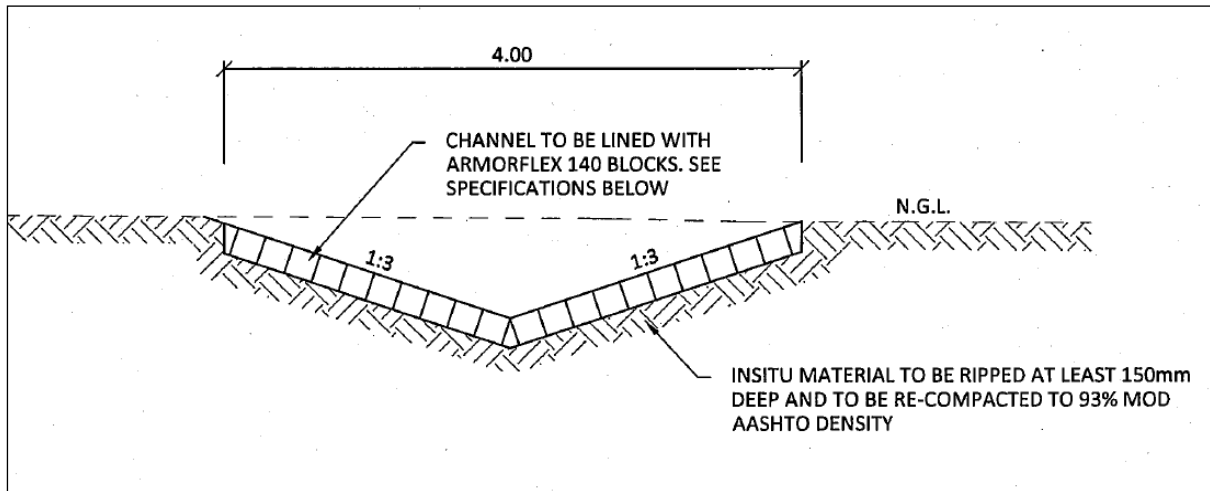

Figure 26: Typical Armorflex Lined Channel Detail
- Figure 26: Typical Armorflex lined channel detail.